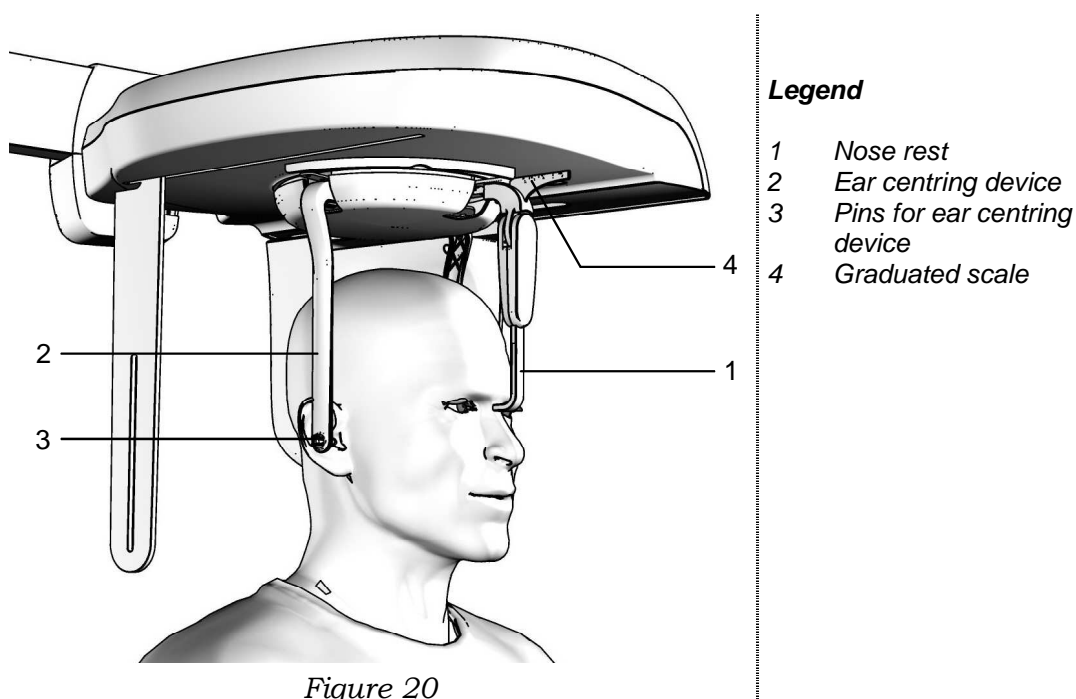

Figure 20
Parameter "fxx.x" indicates the position of the STF; it has to be adjusted according to the value read on the graduate scale present on the nose rest (Figure 20). The value is accepted when the modified number is displayed on the second row (about 3 seconds).
3. Open the ear centring device (Figure 20) to its maximum span by using the upper part of the rods of the centring device itself. Move the nose rest (Figure 20) away outwardly to its maximum extension. Manually rotate the craniostat group according to the cephalometric projection to be made, moving the upper part of the ear centring device (Figure 20).
column till the centring pins (Figure 20) are close to the ear to clasp the patient's head so that the pivots penetrate the ear (Figure 20) moving the upper part of the rods.